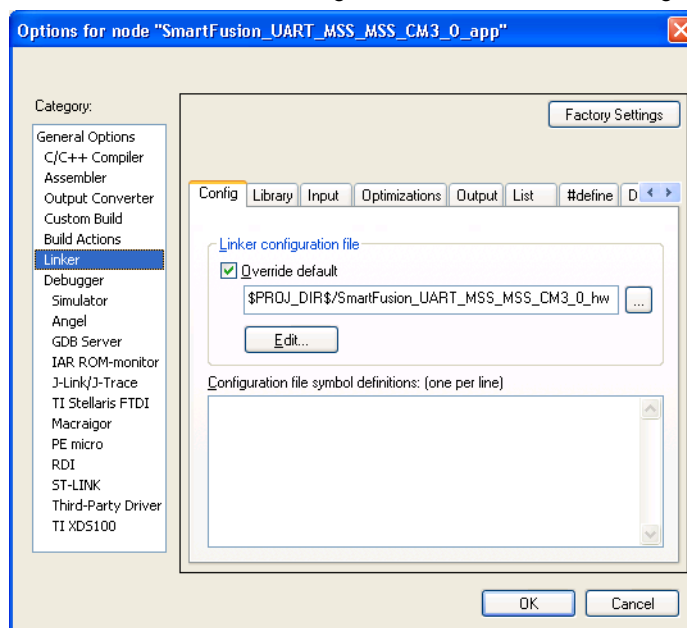

Figure 21 · Adding the Linker Configuration File
4. Click **Linker** under **Category**, as shown in Figure 21 · . The Linker configure file (*SmartFusion\_UART\_MSS\_MSS\_CM3\_0\_hw\_platform.icf*). Add the file, which is available at C:\Microsemiprj\UART\_Libero\_IAR\SmartFusion\_UART\IAR folder by selecting the **Override default** check box. The \*.icf file is a linker configuration file that defines the segmentation of memory.